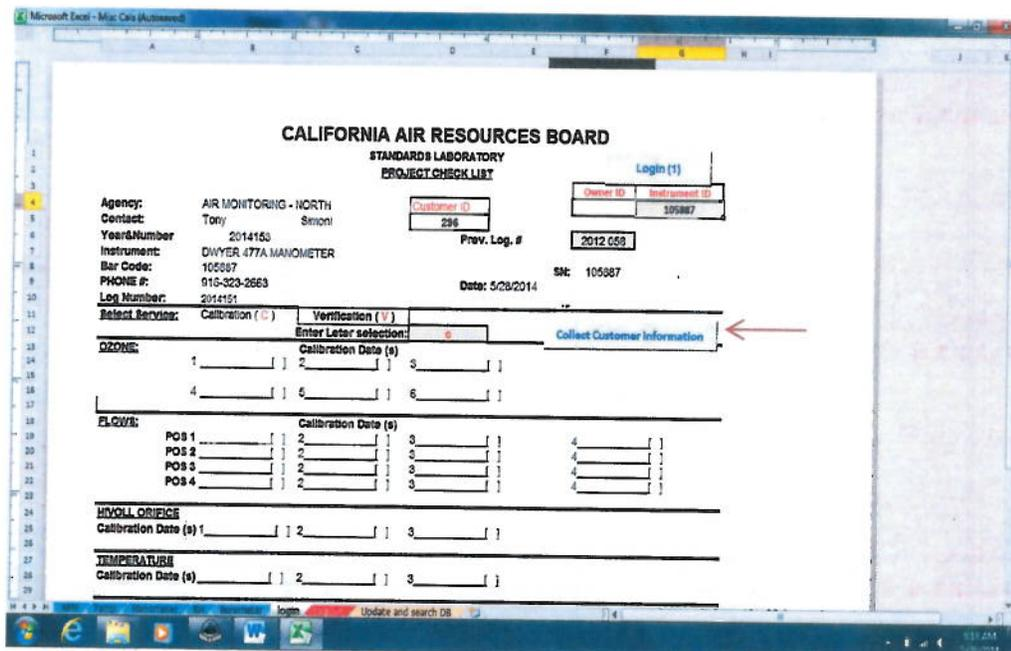

Figure 9
11.9 Select the “Login” worksheet. Enter the “Instrument ID” number. Click on the “Collect Customer Information” button. See Figure 9.